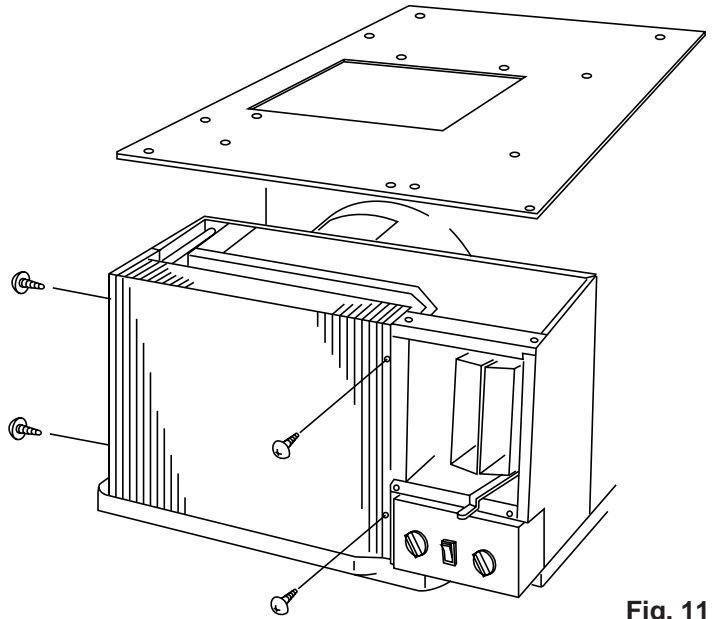

Fig. 11
- (1) Remove the top plate. (Fig. 11)
- (2) Remove screws holding evaporator. (Fig. 11)
- (3) Grasp lower portion of the evaporator with both hands and tilt it slightly and lift it carefully from the drain pan so as not to distort the copper tube.
- (5) Disengage the fan motor from the mounting plate. (Fig. 11)